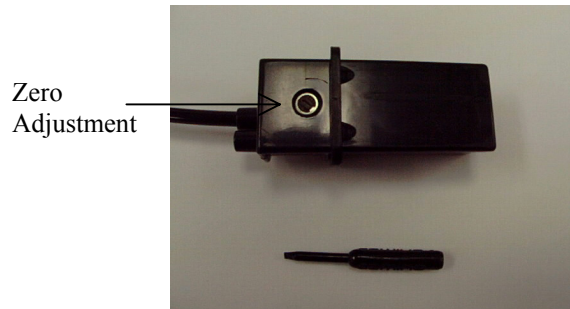

Figure 2-5 ICP Catheter Transducer
5. Before inserting the Catheter into the patient, ensure that the MPM-1 Display indicates an ICP Pressure of “0 mmHg”. If not, use the tool from the Catheter Kit to turn the zero adjustment (Figure 2-5) on the bottom side of the Transducer Connector until the ICP Pressure indicates “0 mmHg”. Also, ensure that the temperature is a reasonable value, such as room temperature, before insertion of the Catheter into the patient.